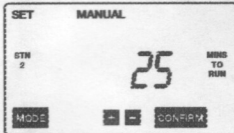

Figure 11
- Push CONFIRM button to confirm the selected station to water. MINS TO RUN will show with two digits or "--" flashing. (See Figure 11)